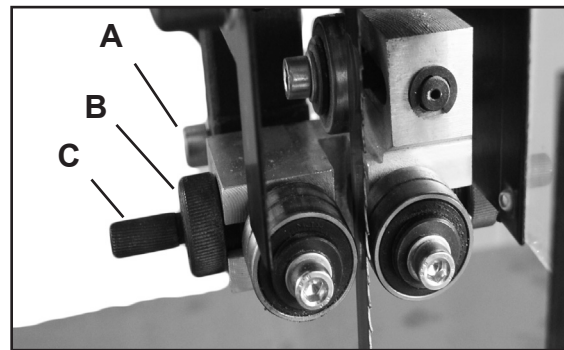

Figure 17
**Upper Guides:** To adjust the upper blade guides, first position the roller guides relative to the blade by loosening the Allen cap head screw (A-Fig.17) and sliding the guide assembly until the side roller guides are approximately 1/16" behind the gullet of the blade, then re-tighten the Allen cap head screw (A-Fig.17). Next, set the roller guides to within 1/32" of the blade by releasing the lock knob (B-Fig.17) and turning the micro-adjusting knob (C-Fig.17). Do not set the guides too close, as this will adversely affect the life of the blade. When the correct adjustment is reached, lock the guides in position by tightening the lock knob (B-Fig.17). Finally, follow the same steps above to position the rear thrust roller guide.